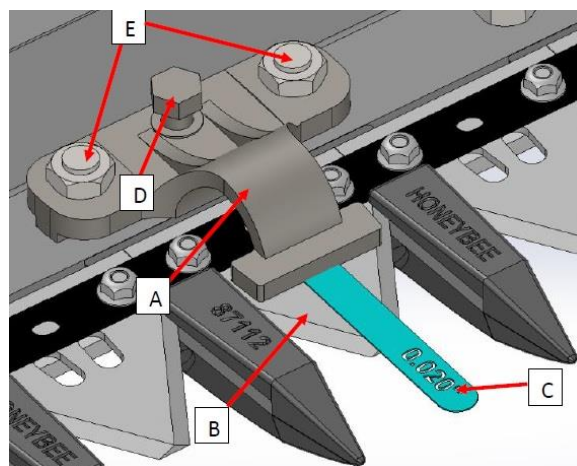

Figure 108
1. Stroke the knife so that the sickle sections are directly underneath the hold-downs (A). Figure 108
2. Push the knife sickle section (B) down against the guard and insert a 0.020" shim (C) between the sickle section (B) and the hold down (A). If there is a large gap or shim is easily inserted or cannot insert the shim, then the hold down needs to be adjusted. When the hold down is properly adjusted the shim should be able to be inserted with light resistance while pushing down the sickle section against the guard.
3. Adjust hold-down (A) by turning the hold down adjustment bolt (D) clockwise to lower the front of the hold-down and decrease clearance, or counter clockwise to raise the front of the hold down and increase clearance.
4. NOTE: For larger adjustments, it may be necessary to loosen the hold down mounting nuts (E), turn adjuster bolt (D), and then retighten nuts (49 ft. Lbs)